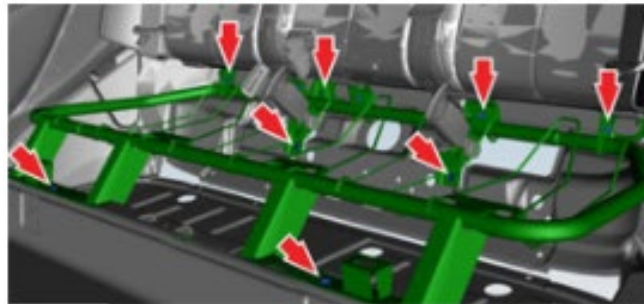

Figure 1
4. Remove the bolts (x8) that attach the seat frame to the body and all clips that attach secure cables to the 2nd row seat frame (Figure 1).